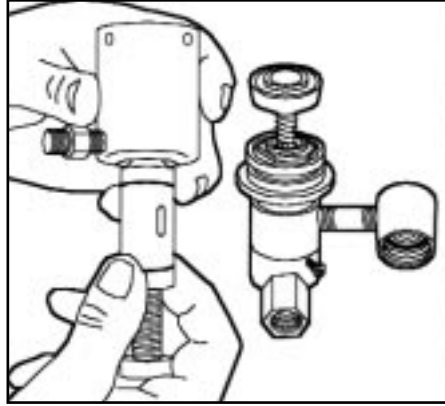

Figure 26
2. Remove the stroke adjuster. Unscrew it from the motor cylinder by loosening the knurled lock/set nut on top of the cylinder body. (Fig.26)